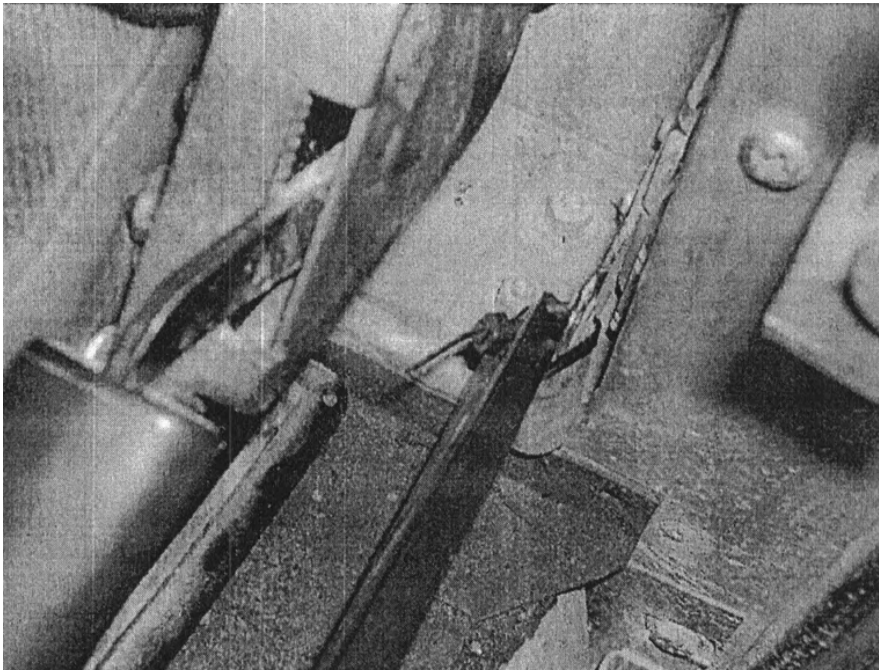

Fig 2
9.4 Secure seat belt protector to the lower anchorage point using the small cable tie (item 2), ensuring the cable tie is fitted as shown in Fig 2. Trim excess tail from cable tie.